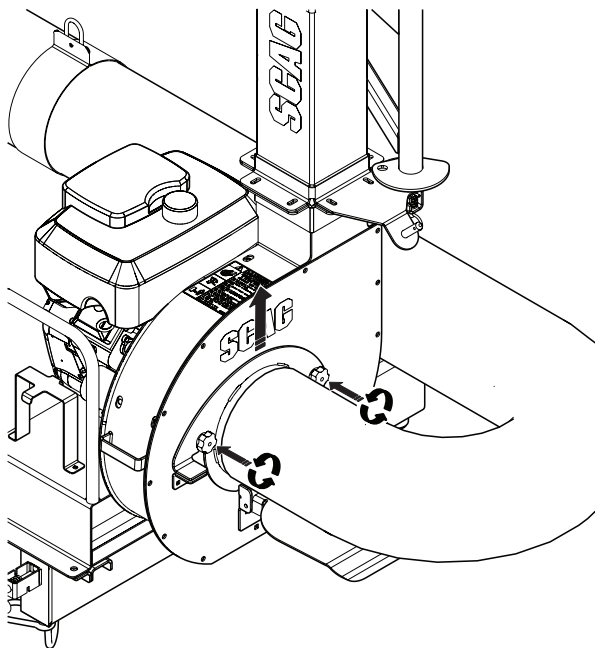

Figure 4-4. Intake Hose Removal
2. When transporting the truck loader, remove the hose assembly from the unit. The hose assembly can be removed by loosening the two wing nuts and sliding the intake adapter upward. See Figure 4-4.